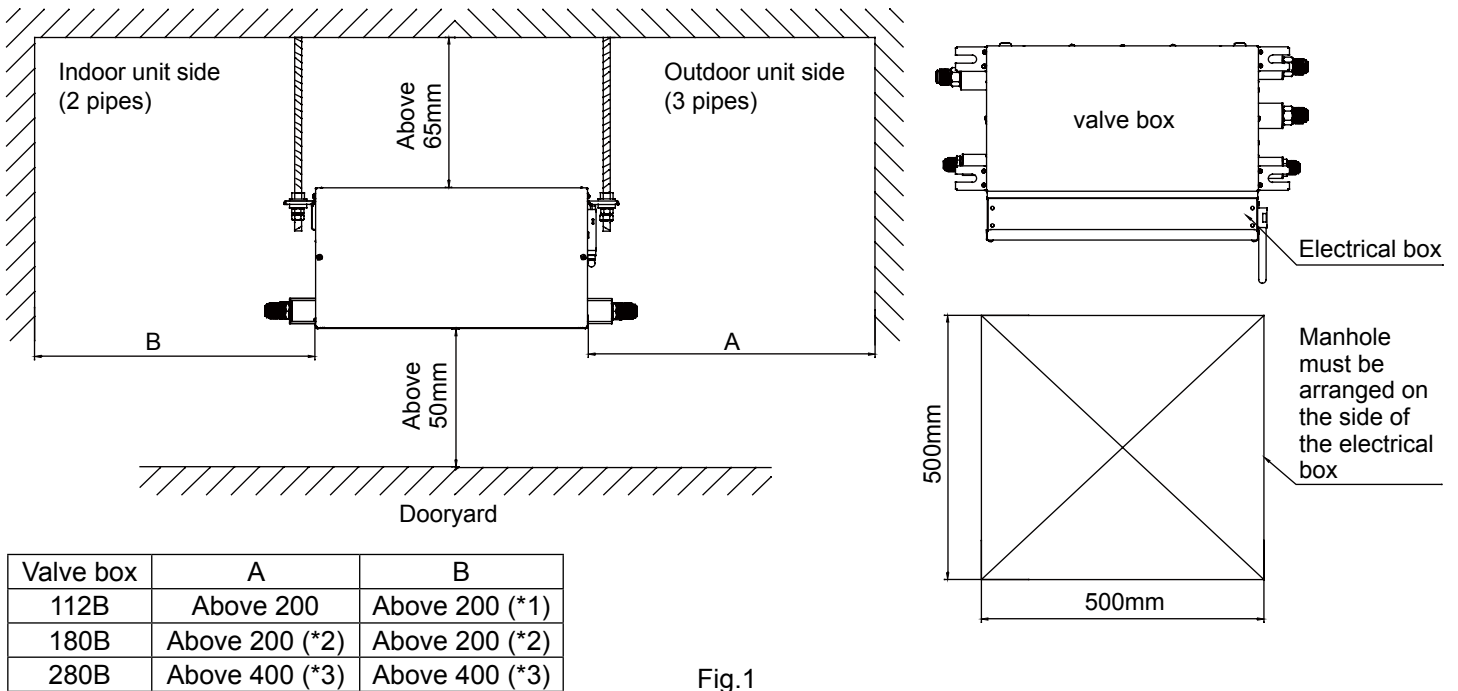
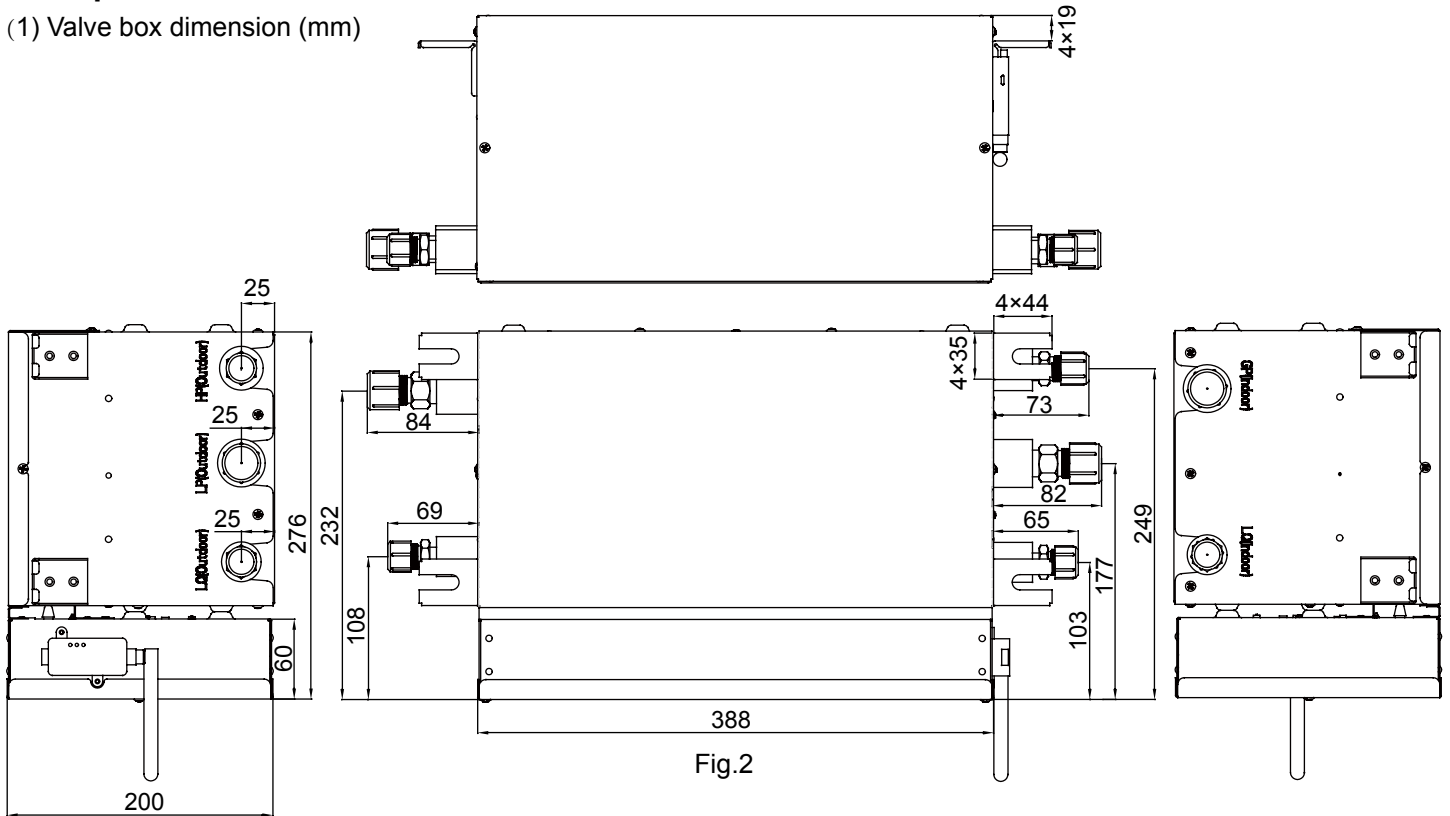

Fig.1
Fig.2
- Ensure that there is enough space for installation and maintenance as show in Fig.1
See the Fig.1 & Fig.2 to install the lifting bolts and hoisting tools.
(1) Change the installation direction of electric box according to requirements following the steps below; (see Fig.1)
- ① Remove the cover of the electrical appliance box; (2 screws)
- ② Remove the electrical appliance box; (4 screws)
- ③ Remove the top plate; (4 screws)
- ④ Change the outgoing direction of wiring (electronic expansion valve coil) between the equipment and the electrical appliance box;
- ⑤ Rotate 180° to install the top plate;
- ⑥ Install the electrical appliance box;
- ⑦ Install the cover of the electrical appliance box.